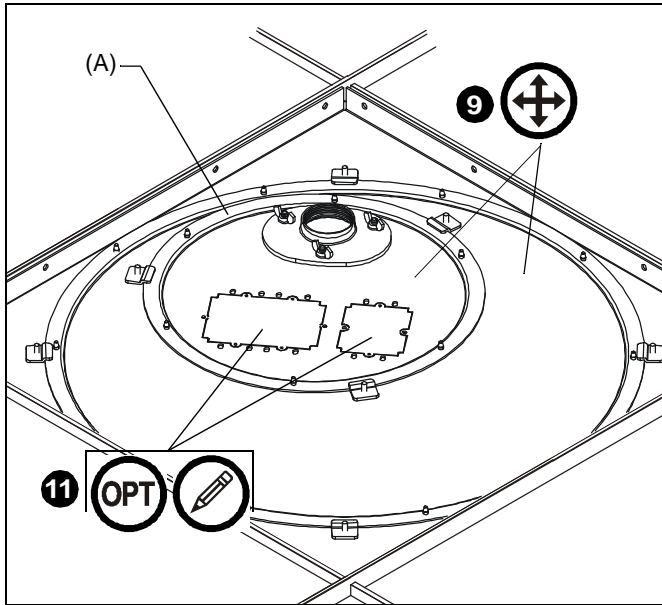

Figure 4
9. Rotate large and small circular plates to position extension column support to the following location (See Figure 4):
Mark location of electrical cutout on ceiling tile with pencil. (See Figure 4)
- Reinstall CMS445 assembly (A).
- Install four clamp brackets (B) with four Phillips head 10-24 x 5/8" screws (G). (See Figure 4) Ensure brackets (B) engage flanges on CMS445 assembly (A) and primary (1-1/2" (38mm) high) rails of ceiling framework.